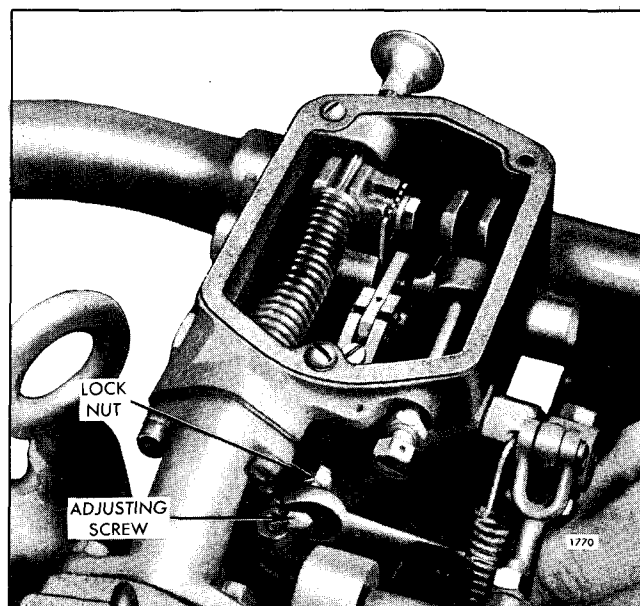

Fig. 5 - Setting Maximum Speed Adjusting Screw
3. Loosen the locknut and back off the maximum speed adjusting screw approximately 3/8" (Fig. 5).
3. Turn the maximum speed adjusting screw in lightly until contact is felt with the linkage in the governor (Fig. 5).